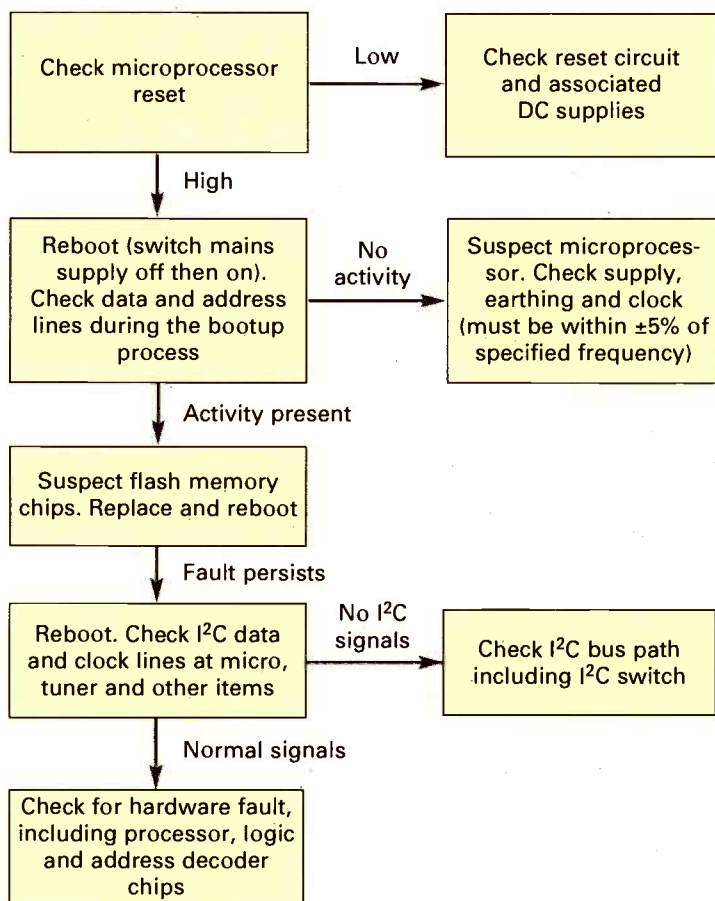

**Fig. 3: Basic digital STB block diagrams, (a) satellite tuner and channel decoder, (b) terrestrial channel decoder, (c) demultiplexer and MPEG decoder.**
**Fig. 3. A typical ground-loop corrector employing a transformer. Note the insulating bush around the 'Line' socket. This prevents the case of the unit from grounding the incoming cable. The second socket is labelled 'In/Out' because the unit may be installed either at the camera or in the control room.**
The transformer breaks the earth connection between the camera and the switcher/monitor. The unit may be mounted at either end of the installation. However it is usually more convenient to locate it at the control room end. Figure 3
Fig. 3 shows basic STB block diagrams and Fig. 4 key waveforms. Figs. 5-7 provide flow-